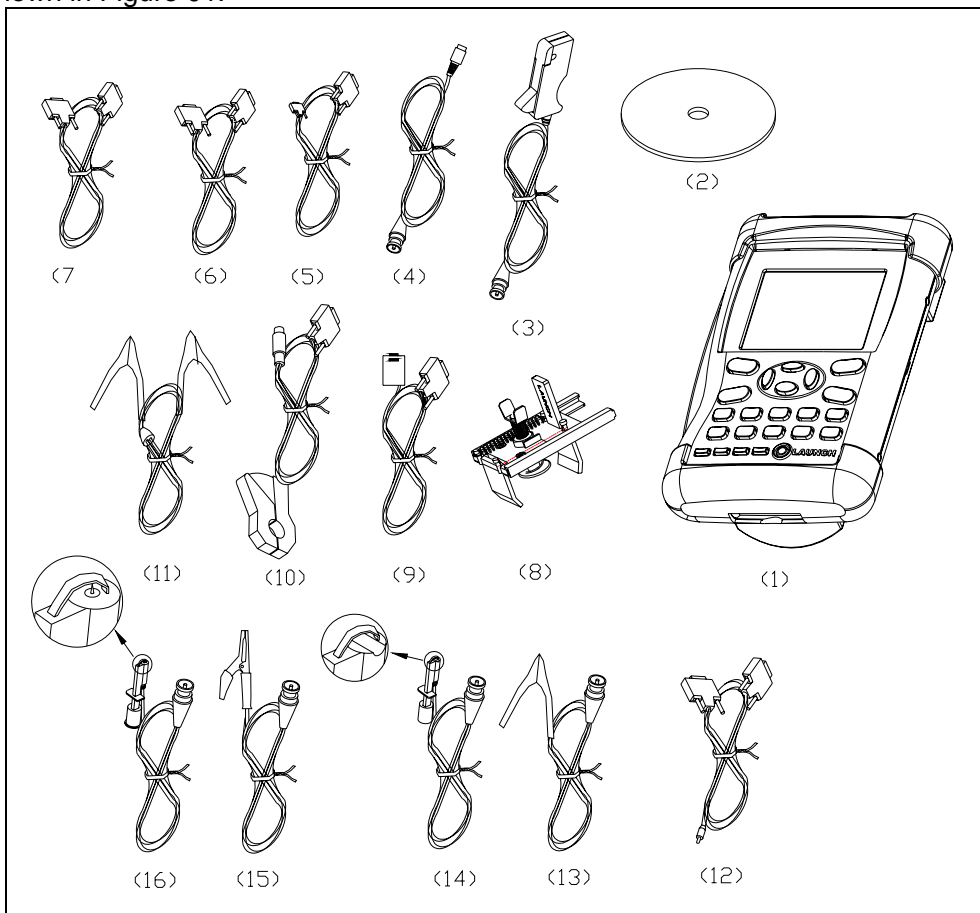

Figure 01
KES-200 is composed of the main unit, engine analysis cartridge, and test cable as shown in Figure 01.
- 17-26 are not shown in Figure 01.